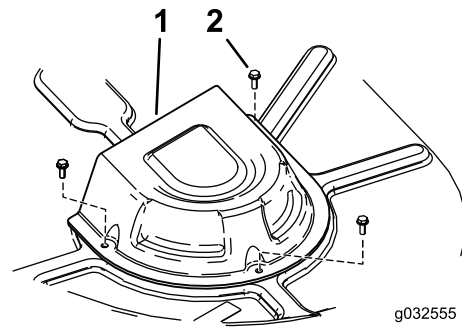

Figure 62
- Remove the pulley covers (Figure 62).
8. Install the pulley covers (Figure 62).